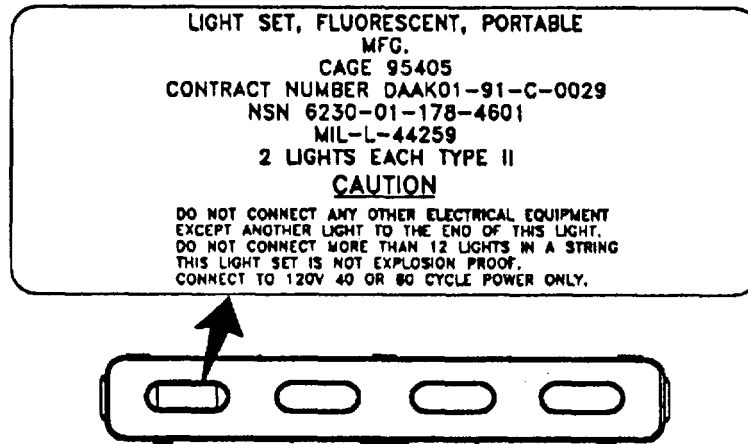

Figure 2-2.
- (a) Position the mapboard sections (2) side by side.
- (b) Line up the complexer tabs (3) on one section with the slots in the next section.
- (c) Push the sections together. The tab (4) at the center edge of one section will latch over the button on the center edge of the next section and fasten the mapboards (2) together.
- (d) Suspend the mapboards (2) from the frame using the equipment straps (4).
- (3) Folding Table. The legs on the folding table fold for ease of storage. To release the legs, unfold them to an upright position. The legs will automatically lock into place.
**2-8. DECALS AND INSTRUCTION PLATES.** A CAUTION decal is found inside the cover of the light set storage container (Fig. 2-2). A label containing abbreviated MCPS set up instructions is sewn to the inside of the frame transport bag (Fig. 2-3). Identification labels are found on the inside of each tent fabric assembly, and transport bag (Fig. 2-4).